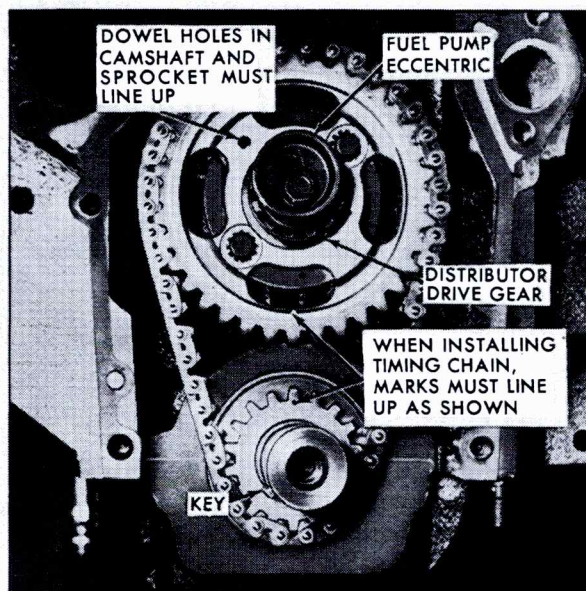

Fig. 6-125 Timing Sprockets
4. Place chain over crankshaft sprocket and line up timing marks on both sprockets, Fig. 6-125.